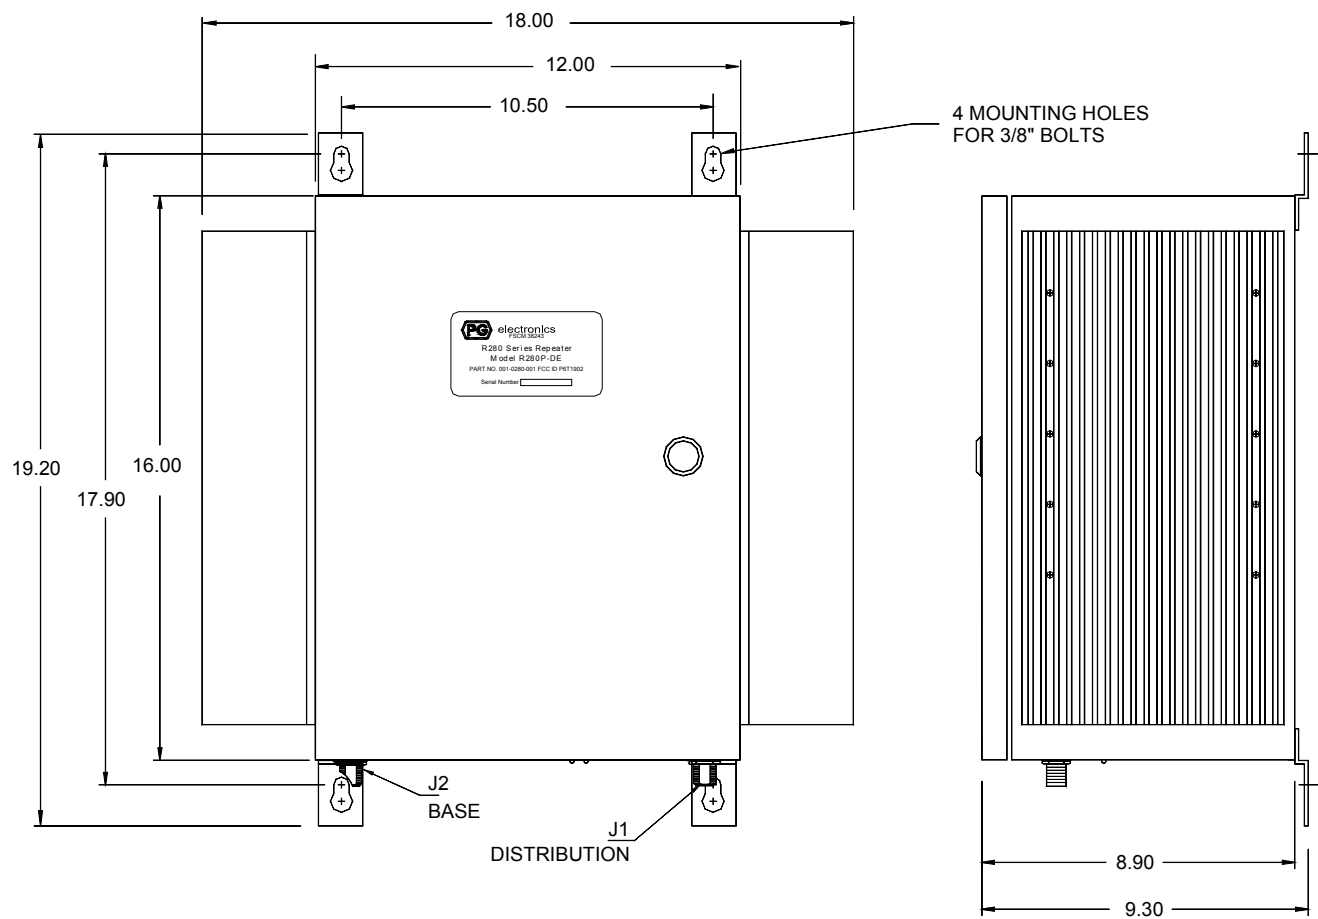

Figure 3-1 Installation Data
1. Locate a suitable mounting location allowing a clearance to route mating cable and connectors to the unit. Drill four pilot holes on 10.5 x 17.9 inch centers for 3/8" bolts. Refer to the installation diagram shown in Figure 3-1.